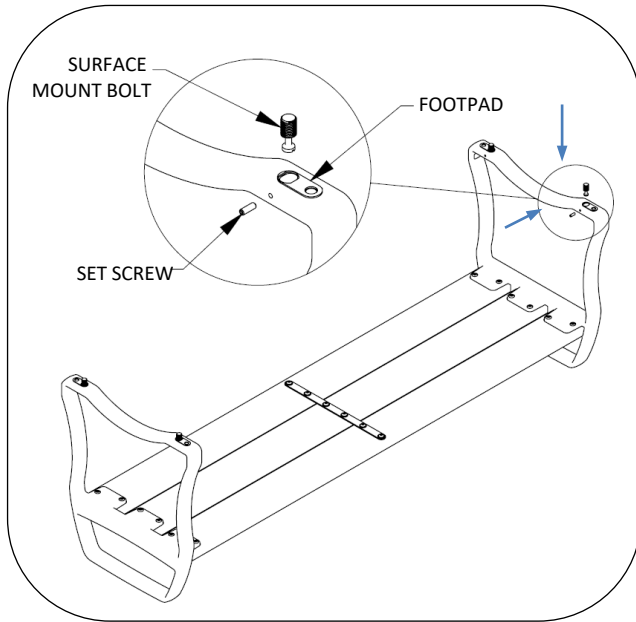

Fig. 1 – Install surface mount bolts and set screws
2. Install surface mount bolts and set screws as shown in Fig. 1. Leave footpads installed.